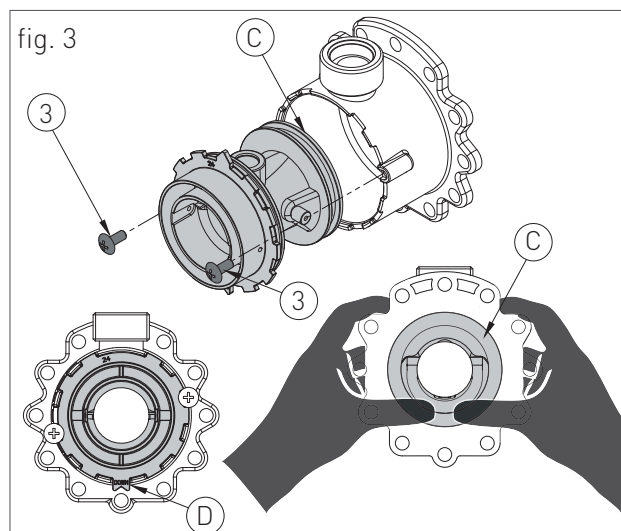

fig. 3
- › remove the two screws '3' (fig.3) and apply pressure on the rear side of venturi 'C' (fig.3);
- › replace the body venturi with the one suitable for the type of supply gas (cod. 30-00166 for methane / cod. 30-00169 for GPL) and make sure the tooth 'D' (fig.3) is adjusted downwards on the aluminium ring nut (see fig.3);